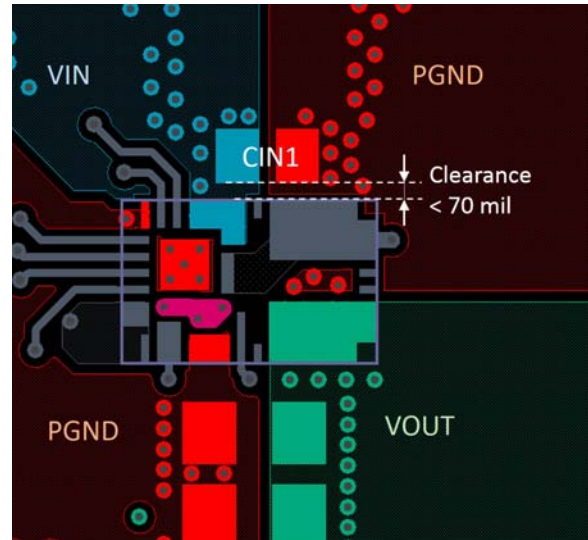
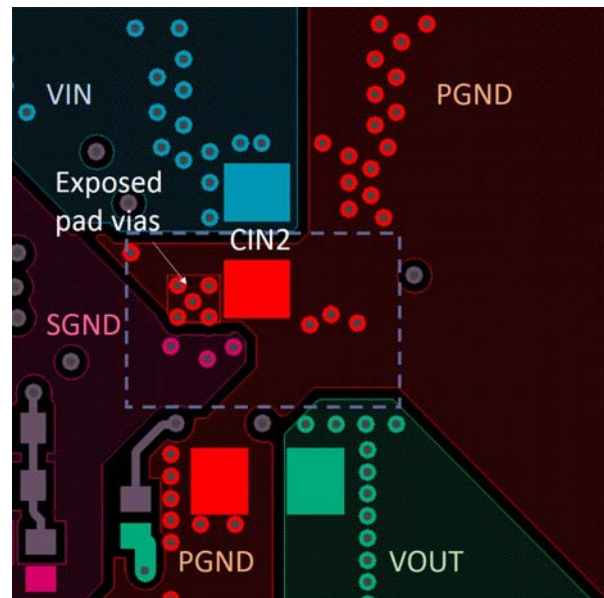

FIGURE 39. LAYOUT EXAMPLE - TOP LAYER
FIGURE 40. LAYOUT EXAMPLE - BOTTOM LAYER
A few layout considerations need to be taken into account in order to achieve proper operation of ISL8205M. An optimized layout design also allows the module to have lower power loss and good thermal performance. An illustrative layout example is shown in Figures 39 and 40. Key points are listed in the following:
- Place the input ceramic capacitors as close as possible to the module input. These ceramic capacitors are used to minimize the high frequency noise by reducing parasitic inductance of the switching loop. Optimized placement of these capacitors will not only lead to less switch node ringing, but also minimize the noise seen by the module to insure proper operation. It is recommended to use X5R or X7R ceramic capacitors with a minimum total capacitance of  $44\mu\text{F}$  at module input. It is a **MUST** that one of the input capacitors ( $C_{IN1}$ ), with no less than  $3.3\mu\text{F}$  capacitance, should be placed on the same layer (assuming top layer) as the module and within less than 70 mil clearance to module input (refer to Figure 39). For capacitors on the bottom layer, it is recommended to have one ( $C_{IN2}$ ) placed from VIN to PGND copper close to exposed pad (Pad 20) vias (as shown in the layout example in Figure 40).
- Use a separate SGND ground copper area for components that are connected to signal ground. Connect SGND copper to module Pad 22 through multiple vias (refer to Figure 40). Because Pad 22 is connected to module internal PGND at single location, the SGND copper area and PGND plane on the PCB can be left separated.